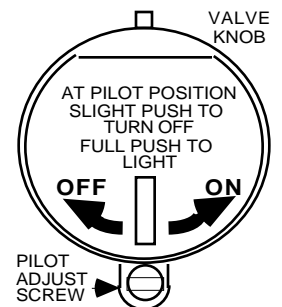

Figure 6
ADJUSTING BURNER FLAME HEIGHT (Manual Valve) (see Figure 6)
1. Adjust the valve control for desired burner flame height. Turn **VALVE KNOB** counter clockwise for more flame. Turn clockwise for less flame. (Figure 6)